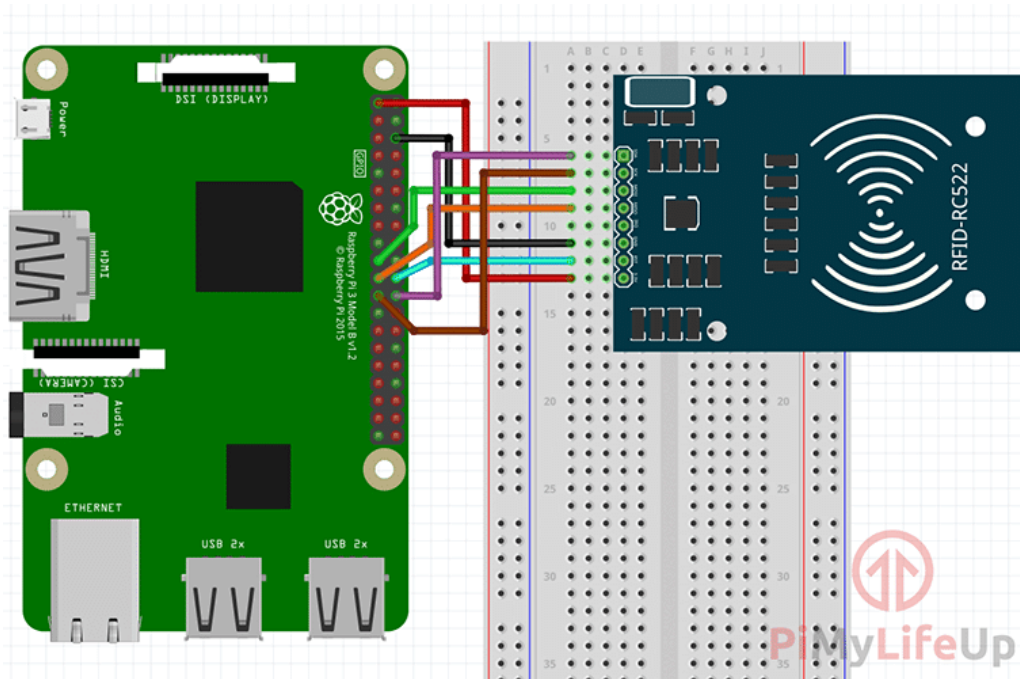

Figure 7: Wiring the RFID-RC522 to a Raspberry Pi.⁵
1. Please copy the exact wiring shown in Figure 7 to connect the RFID-RC522 to your Raspberry Pi. Once connected correctly, you will see a red light appearing on the chip.